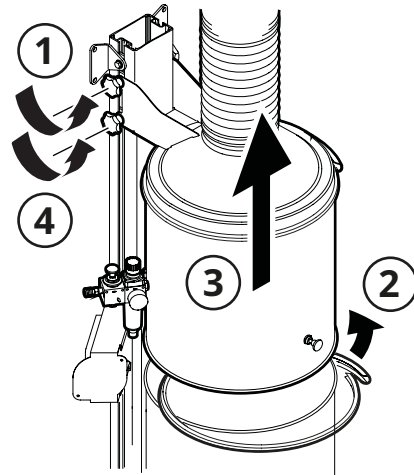
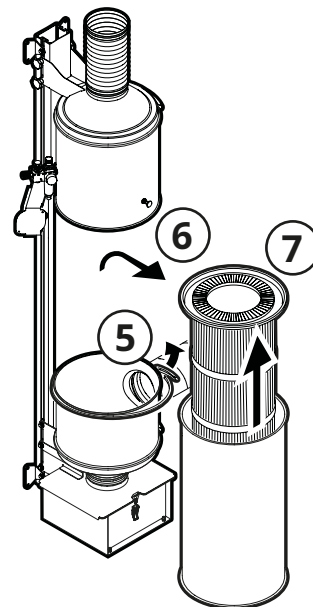
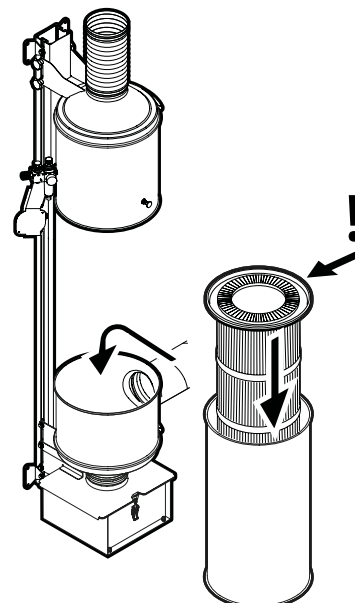

Fig. 9
Fig. 10
Fig. 11
2. Loosen the four fixation (1, **Fig. 9**) knobs for the outlet and remove the tension ring (2) between the filter housing and control housing.
3. Now push the control housing up (3) and secure it in the aluminium rail (4) so that it is firmly in place.
4. Remove the tension ring (5, **Fig. 10**) between the filter housing and the connection cylinder.
5. Lift the filter housing and place on a flat surface (6).
6. Lift out the filter from the filter housing (7).
8. Insert a new filter into the filter housing (**Fig. 11**).
2. Loosen the four fixation knobs (1, Fig. 9) for the outlet and remove the tension ring (2) between the filter housing and control housing.
4. Remove the tension ring (5, Fig. 10) between the filter housing and the connection cylinder.